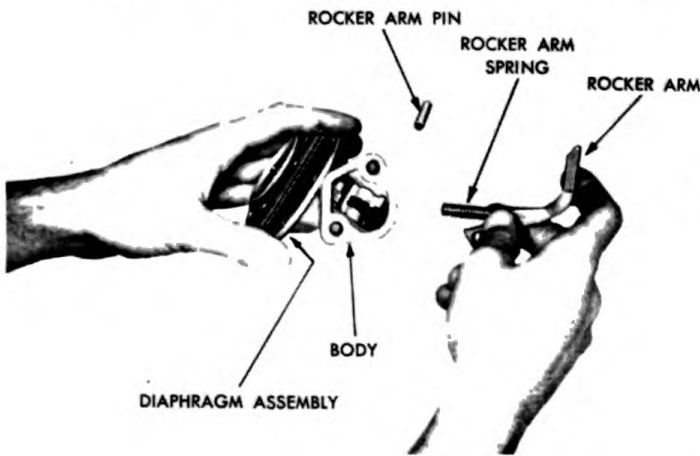
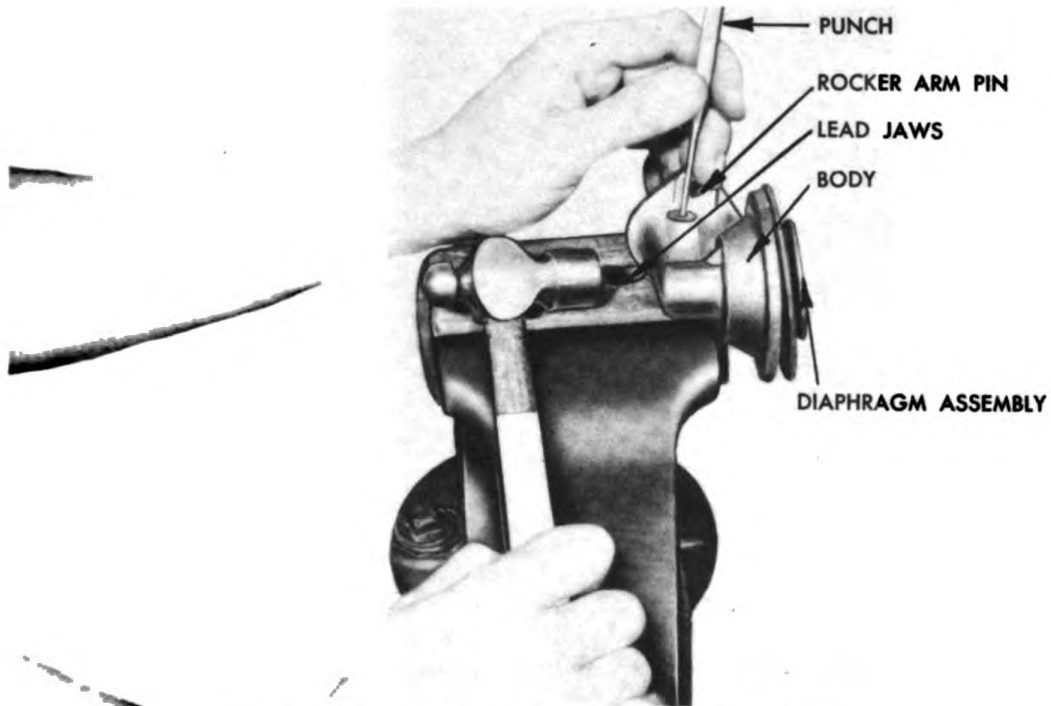
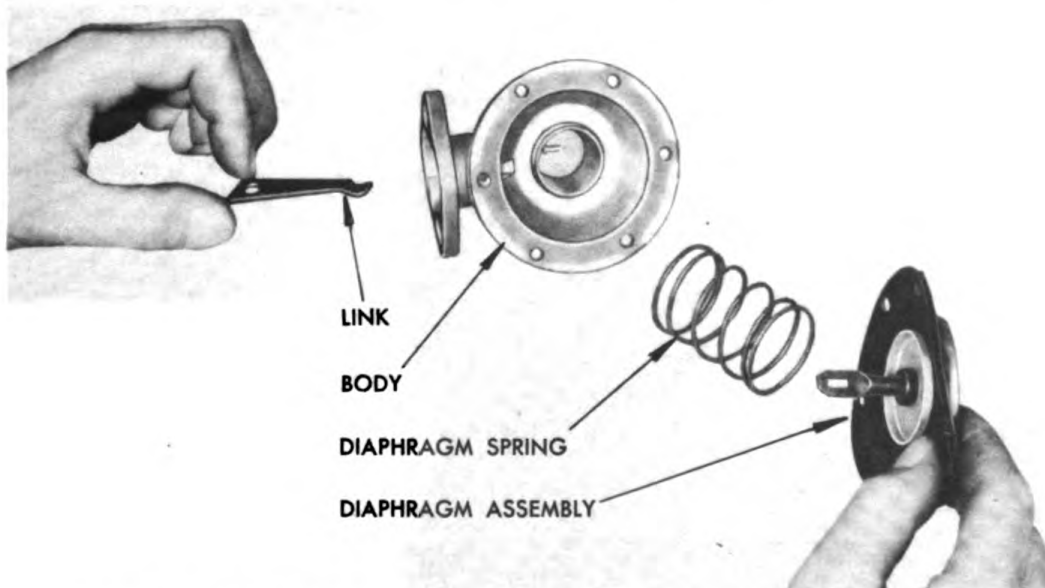

Figure 299. Removing Fuel Pump Rocker Arm.
Figure 298. Driving out Fuel Pump Rocker Arm Pin.
Figure 300. Removing Fuel Pump Spring Link and Diaphragm.
- e. Rest pump body on edge of vise and drive out rocker arm pin with drift punch and hammer. See figure 298. Remove rocker arm. Figure 299. Remove spring, link, and rocker arm bushing. Figure 300.
- b. Inspect rocker arm for wear or scores at camshaft pad, at point of contact with link and pull rod. Figure 299.
- d. Soak the new diaphragm assembly figure 300 in clean kerosene while performing the following steps. Fuel oil or gasoline may be used.
- e. Assemble link and rocker arm. Place rocker arm and link in body with link hook down. Figure 299. Align rocker arm pin hole with hole in body and drive in the rocker arm pin, figure 298, installing washer on small end of rocker arm pin and spread end of pin.
- g. Place diaphragm spring over pull rod well and install diaphragm assembly, hooking diaphragm to link by pressing diaphragm against spring. Figure 300.